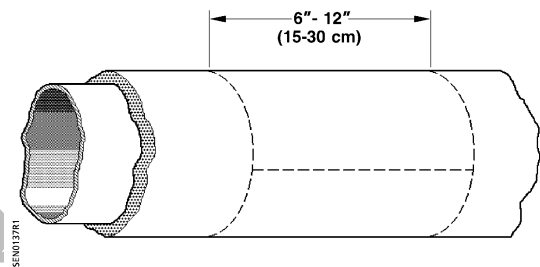

Figure 1. Cutting the Insulation.
1. If the pipe is insulated, remove a portion of the insulation by making two cuts around the circumference of the pipe (between 6 and 12 inches [15 and 30 cm] apart). Make a third cut perpendicular to the first two cuts so that the insulation can be removed in one piece. See Figure 1. **Save this piece.**